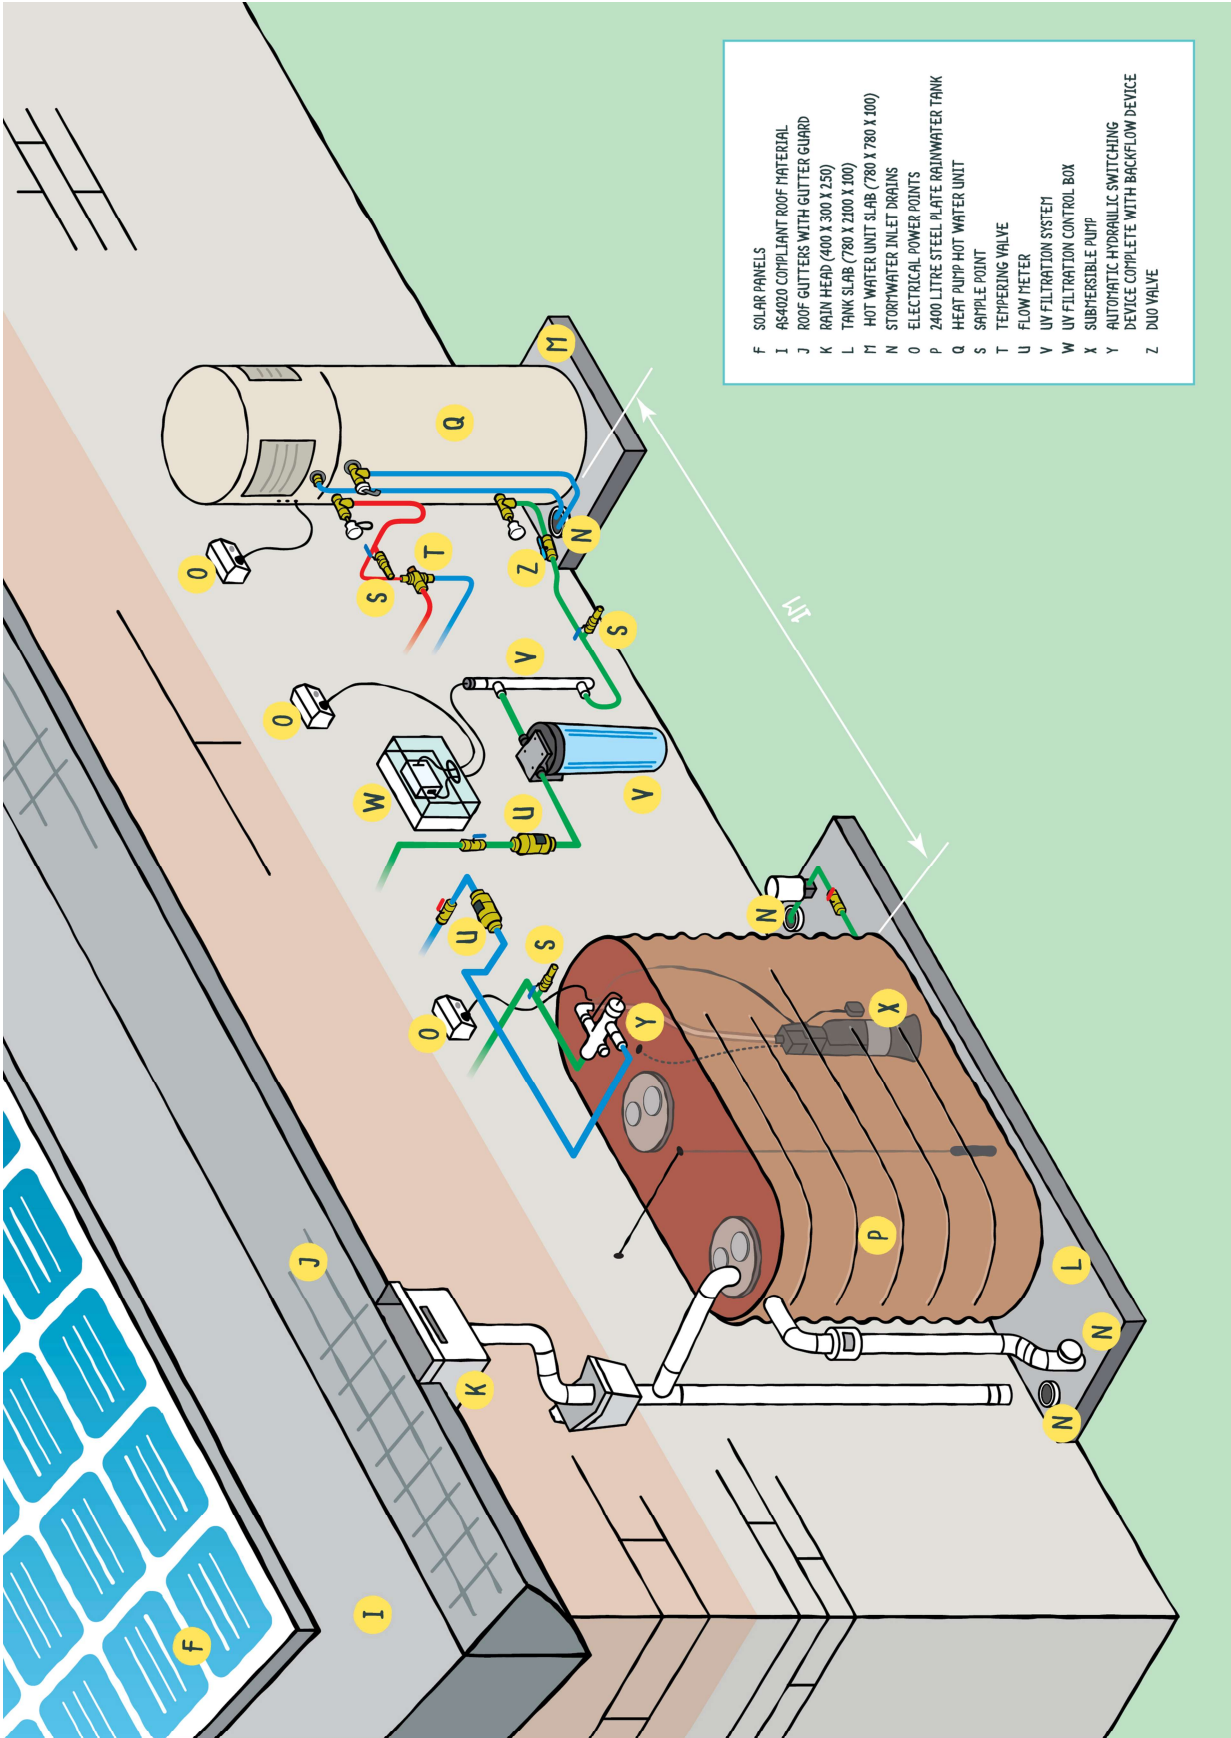

Figure 7. Rainwater to hot water
- To comply with all relevant SEW plans (Refer Figure 7 and Appendices A-D)
- Electrical connection points for rainwater to hot water installation (Refer Figure 7 and Appendices A-D)